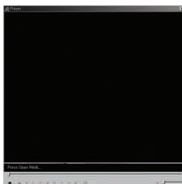

Figure 2. DVR Player
2. Click DVR (Exclusive) Player icon , and then you can see the below player. (Figure 2. DVR Player)